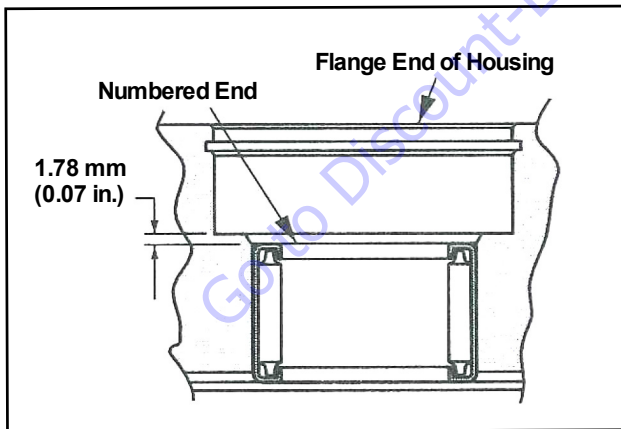

Figure 5-121. Housing Inspection
- Check the bearing (press fit) in housing. If needles remain in cage, move freely, and setting at the dimension shown in Figure 5-121., removal not required.
2. If necessary, press new bearing in housing to dimension shown in Figure 5-121. with the numbered end of bearing outward.